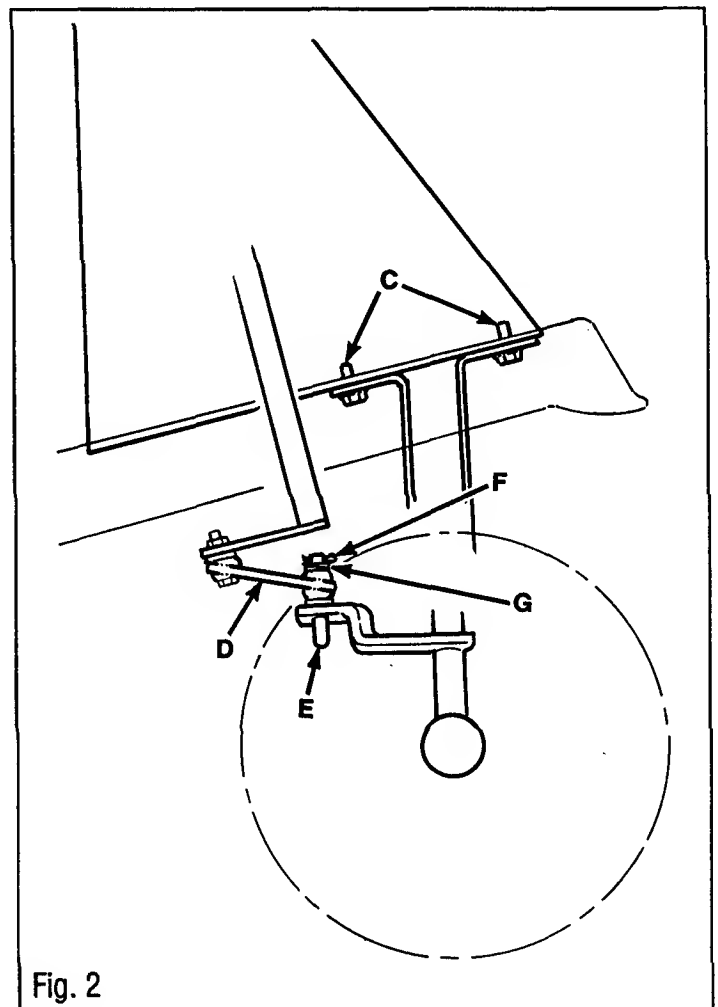

Fig. 2
1. Remove the three bolts (C, Fig. 2) from the bottom of the column support.
NOTE: The column support shown in Fig. 2 is one of two different supports. Your unit may have a different style of column support.
3. Attach the rod end assembly (D, Fig. 2) on the bottom of the steering column to the tie rod (E) as follows:
A. Remove the top cotter pin (F) and all but one flat washer from the tie rod.
B. Place the rod end assembly (D) over the tie rod.
C. Re-install the remaining flat washers (G). Re-install the cotter pin.